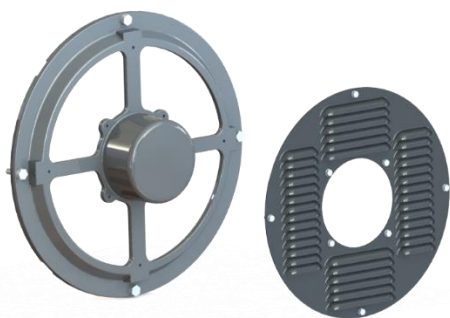

Figure 14.37: Withdrawal of shutter cover
- 3) Withdraw the exciter cover shutter cover with PMG, withdrawing the 08 hexagon headed screws M6, according to Figure 14.37.